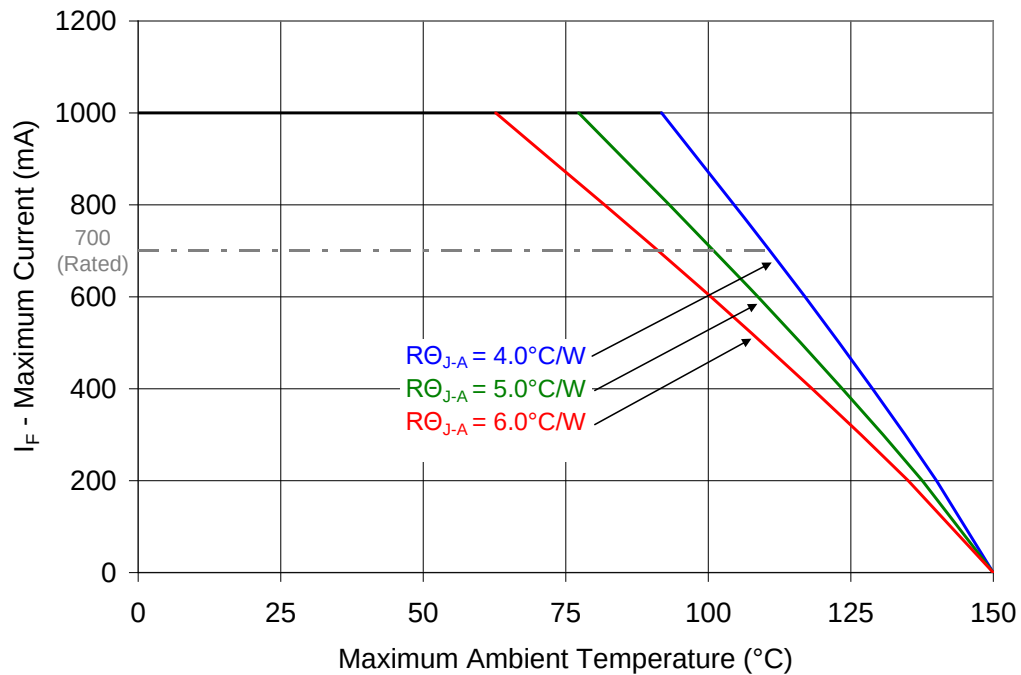

Figure 10: Maximum forward current vs. ambient temperature based on $T_{j(MAX)} = 150^\circ\text{C}$.
- Maximum DC forward current is determined by the overall thermal resistance and ambient temperature. Follow the curves in Figure 10 for current derating.
Notes for Figure 10: